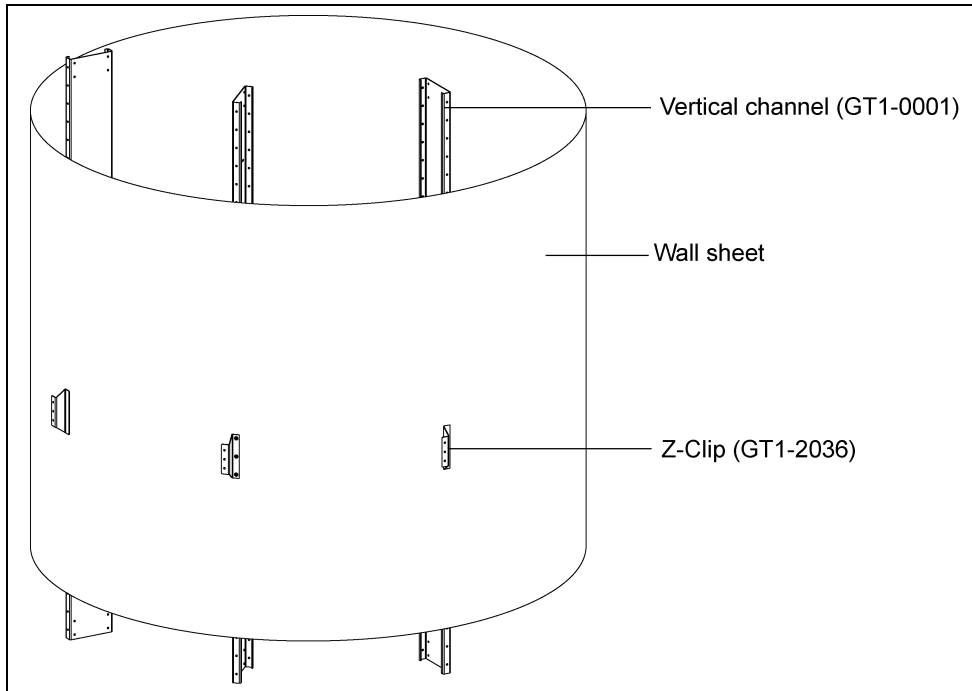
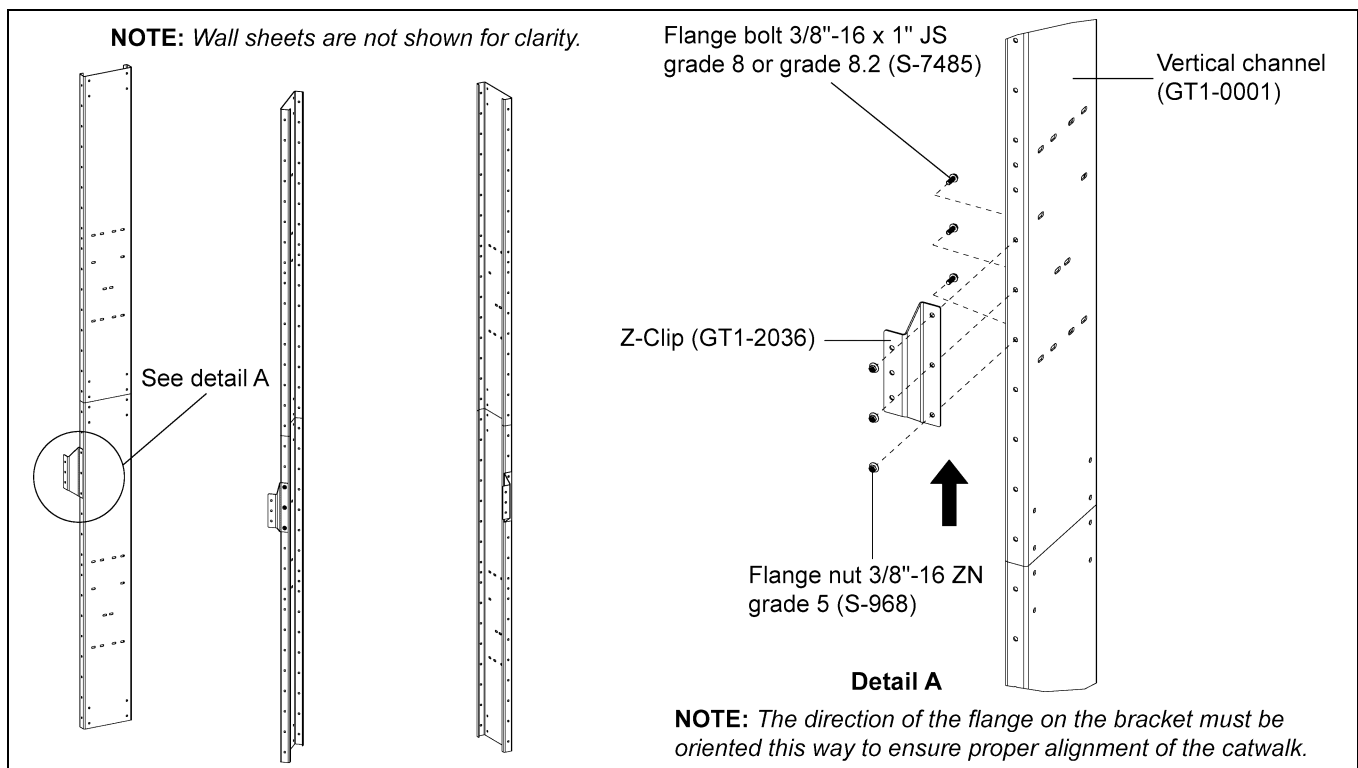
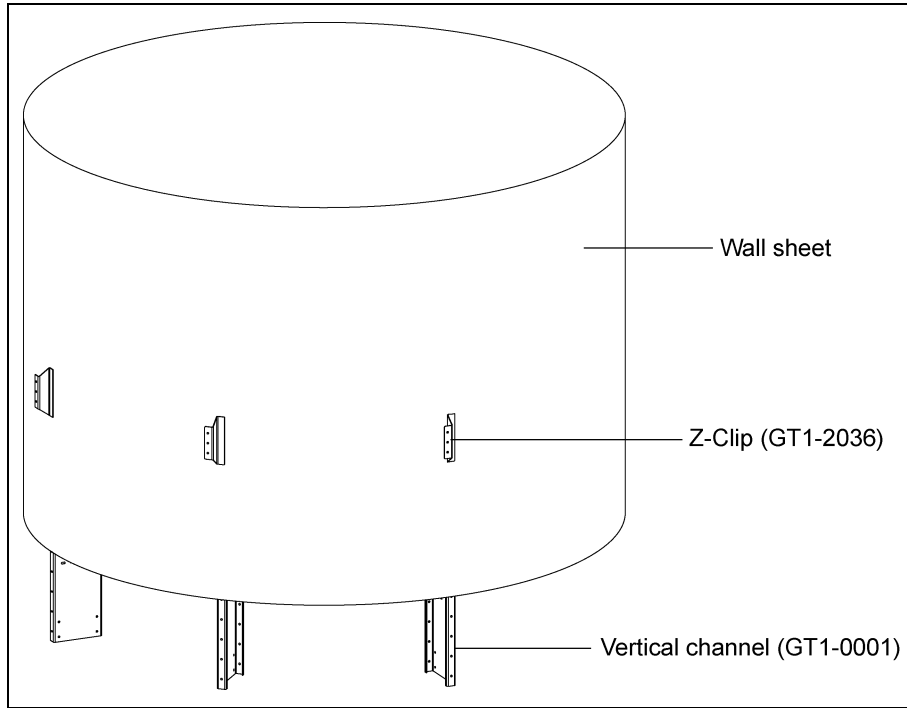
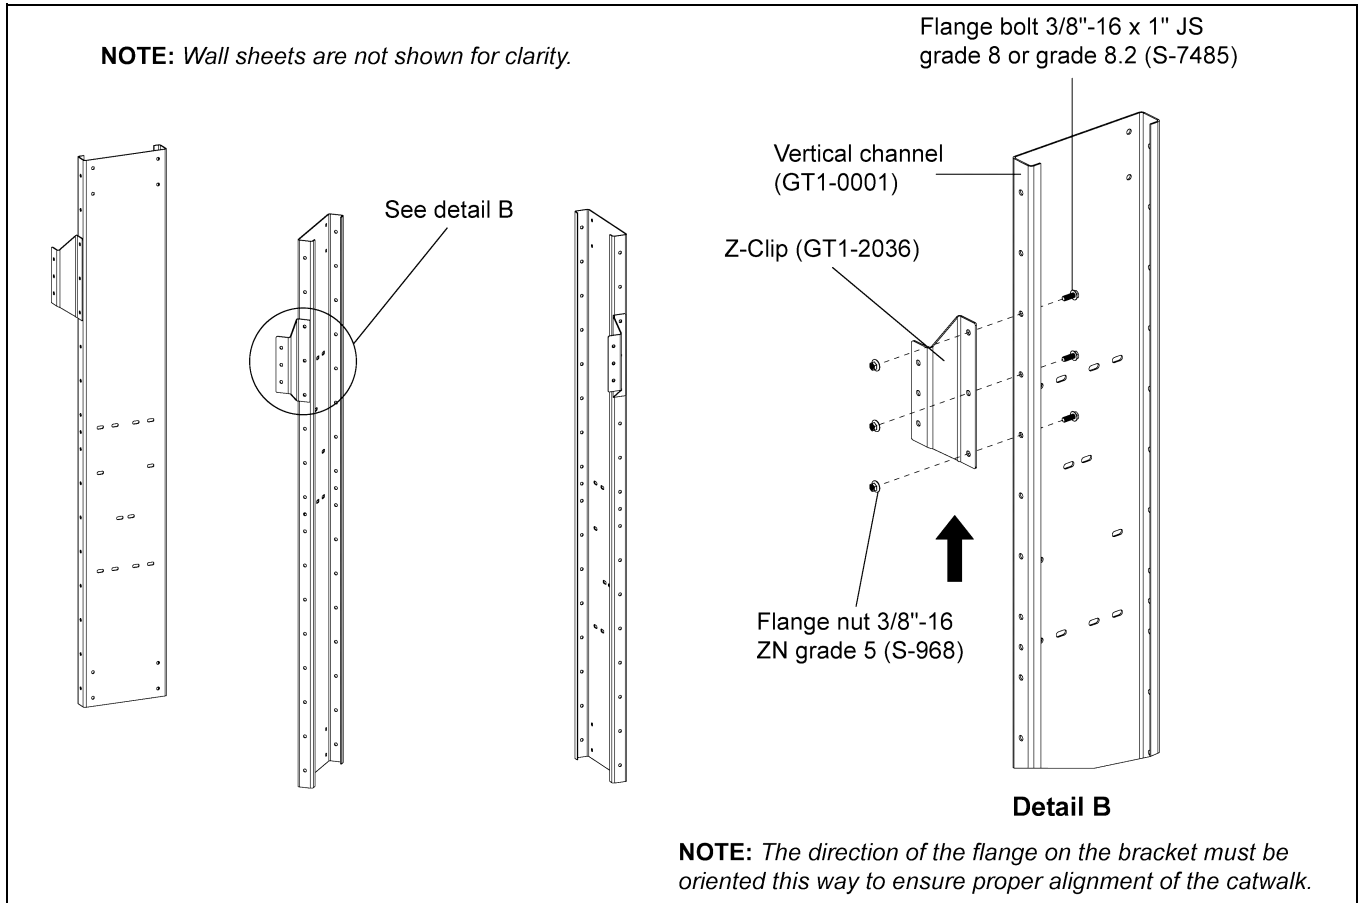

Figure 6A Offset Z-Clip Installation
Figure 6B Offset Z-Clip Installation
Figure 6C Roof Hatch Z-Clip Installation
Figure 6D Roof Hatch Z-Clip Installation
1. Bolt Z-clips (GT1-2036) to vertical channels (GT1-0001). The Z-clip can be installed on each vertical channel as wall sheets are installed using 3/8"-16 x 1" JS grade 8 or grade 8.2 bolts (S-7485) and 3/8"-16 ZN grade 5 nuts (S-968). (See Figure 6A, Figure 6B below, Figure 6C and Figure 6D on Page 47.)